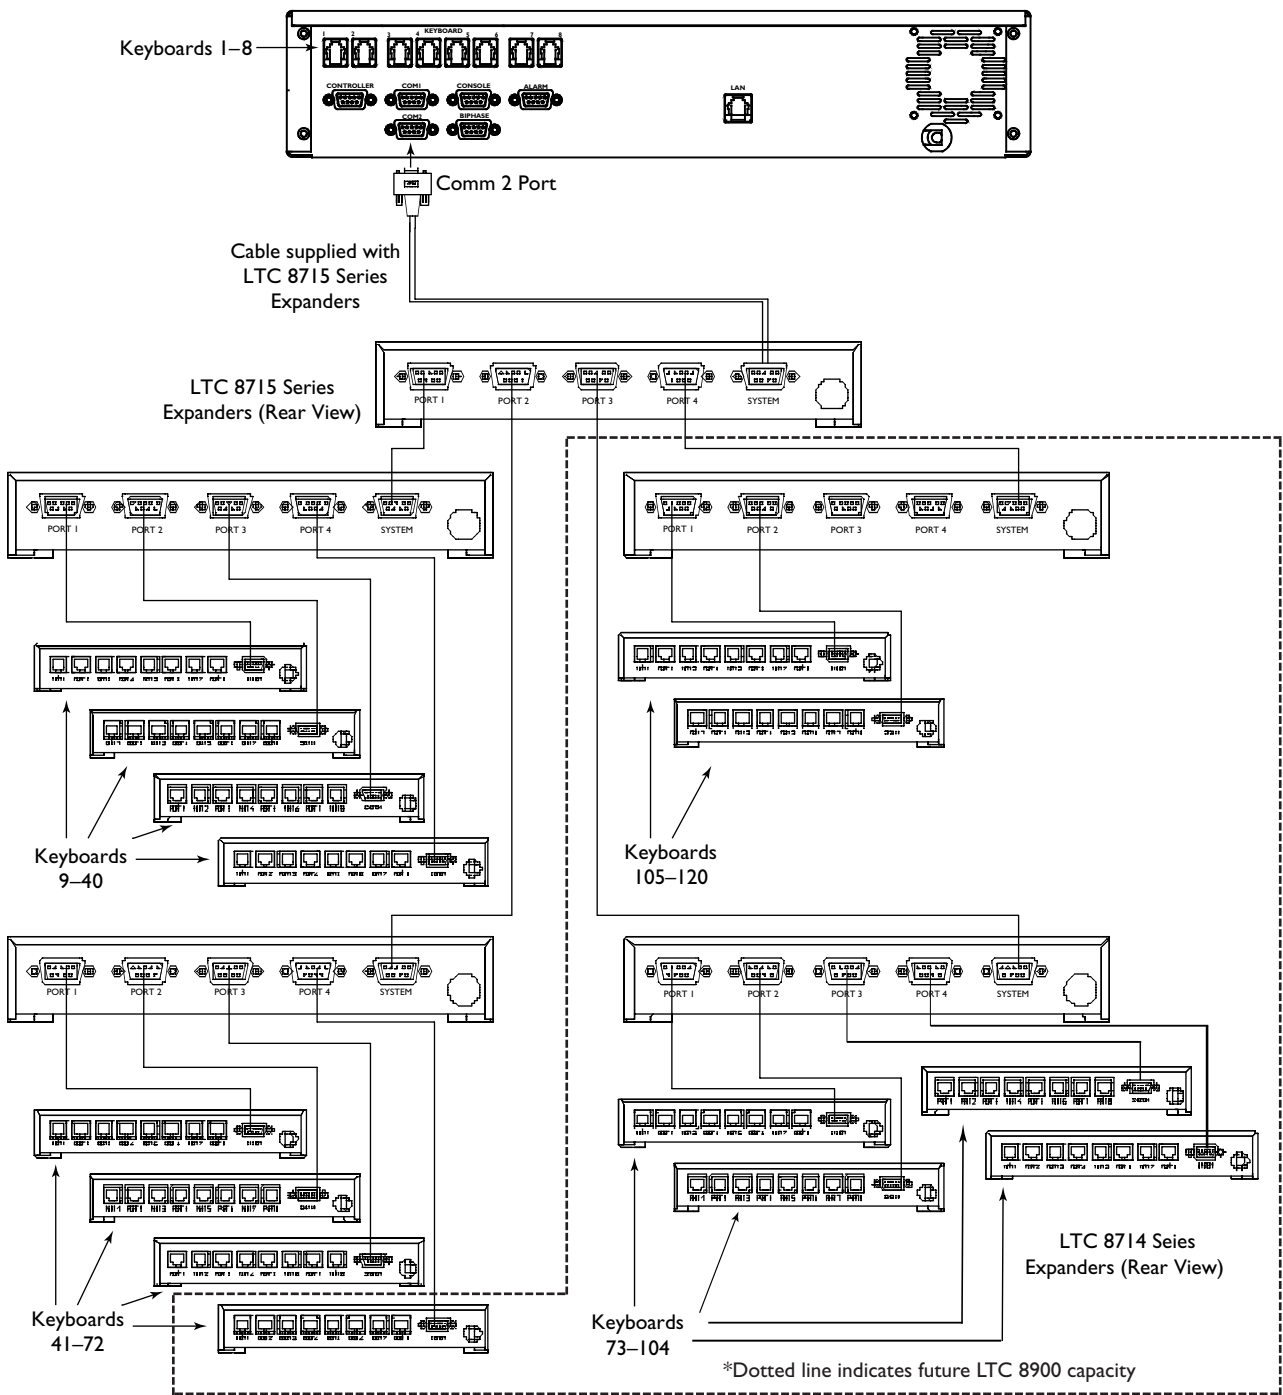

Figure 11 Typical Installation for More than 32 Remote Keyboards
S402 DIP Switch: Verify that switches 1, 2, and 3 are ON and all others are OFF if the LTC 8715 will have LTC 8714 units connected directly to it. Verify that switches 1, 2, 3, and 5 are ON and all others are OFF if the LTC 8715 will have other LTC 8715 units connected directly to it (see FIGURE 11).
4. Using the cable supplied with the LTC 8715 unit, connect the SYSTEM port on the LTC 8715 Series unit to the COMM2 port on the Allegiant Series main bay. In this configuration, up to 32 remote keyboards can be connected using four LTC 8714 units and one LTC 8715 unit. To expand beyond 32 remote keyboards, another tier of LTC 8715 units may be used (see FIGURE 11).